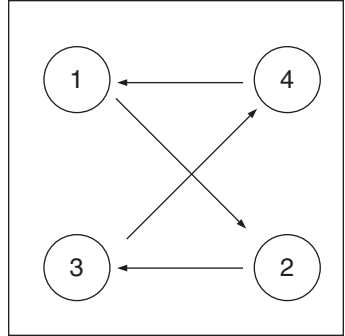

Fig. 44
- c. Tighten the four 3/8" Hex Socket capscrews (.500" - 13" x 4.00"). Step by step to avoid damaging the seals (**Fig. 44**).